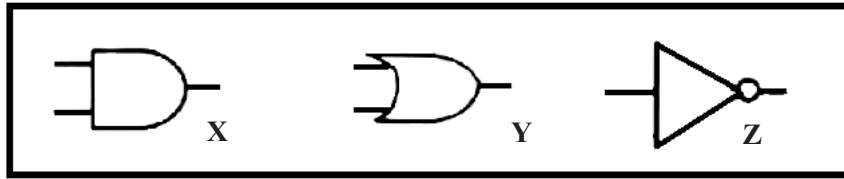

Figure 4
Study the symbols shown in **Figure 4** then fill in the missing words in the sentences below.
- (i) The symbols in **Figure 4** are all examples of gates. (1 mark)